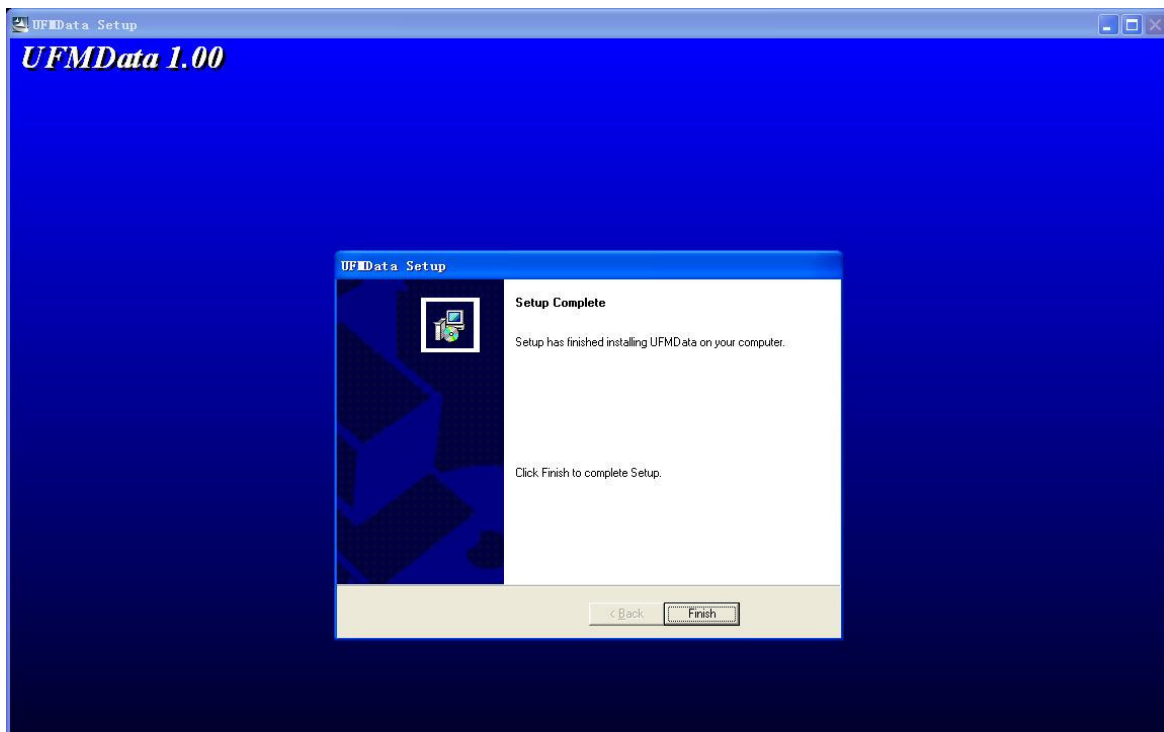

Figure 6-9 Finish UFMDData Installation
Step 4: Click “Finish” to finish installation, as shown in Figure 6-9.